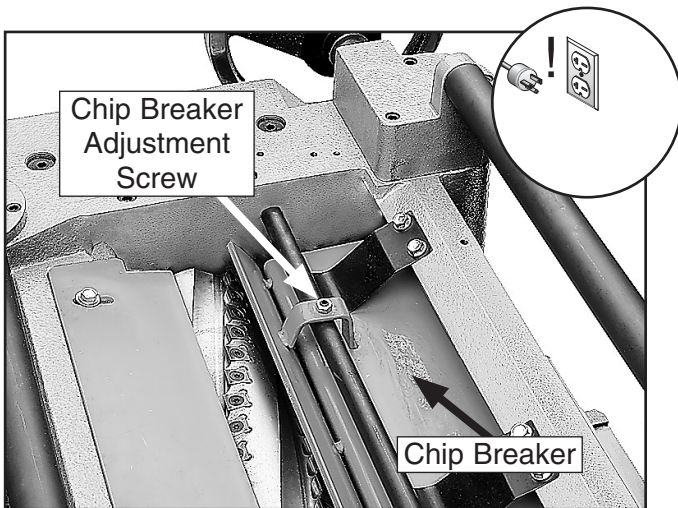

Figure 31. Adjustment locations for the chip breaker.
10. Using the same zeroed reference on the Rotacator, adjust the height of the chip breaker and outfeed roller to their given specifications. The adjustment controls for each are shown in **Figure 31**.